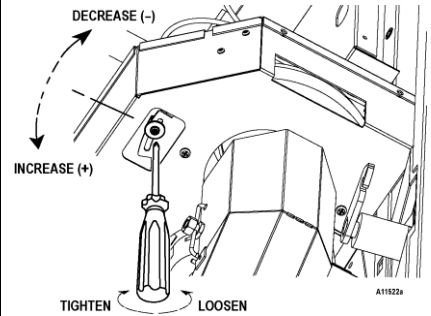

Figure 8c. Cup Diameter Adjustment (Post-NOV2007)
3. While facing the back of the door, find the cup dispenser adjustment screw located on the right side of the cup dispenser. Use a Phillips screwdriver to loosen the screw. DO NOT remove the screw. See Figure 8c & 8c.
- 3d. When steps 3a thru 3c are satisfied then tighten the screw. See Figure 8c.